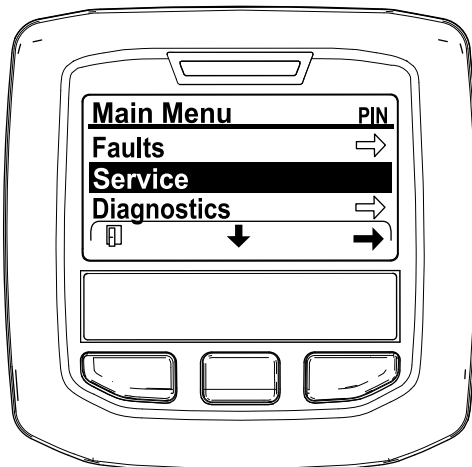

Figure 30
2. Navigate to the MAIN MENU, press the center button to scroll down to the SERVICE MENU, and press the right button to select the SERVICE option (Figure 30).